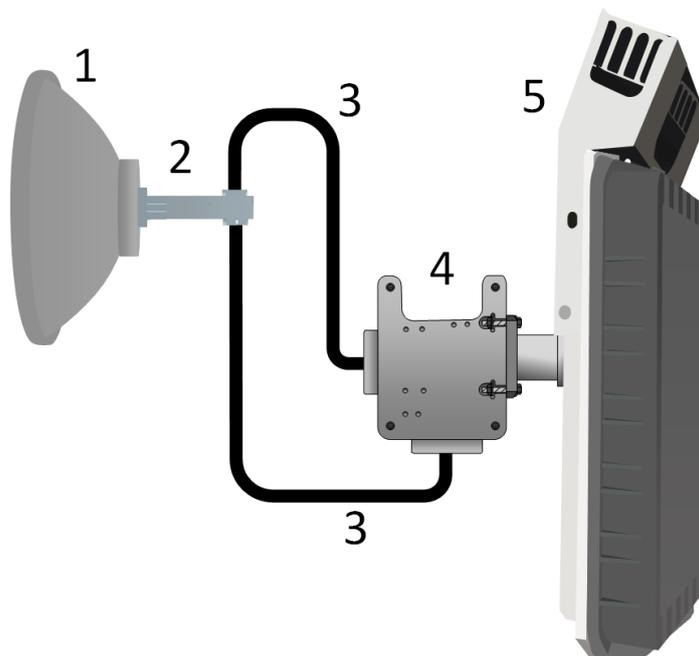

Figure 6-10 1+1 FD Integra-X/X2 connection diagram
If only one polarization is used, and the antenna supports both frequency channels, a single antenna can be used. For such 1+1 FD configuration with Integra-X/X2 FODU, an antenna (1), a coupler (2), waveguides (3), a tower mountable OMT (4), and a single FODU (5) are required. 1+1 FD connection diagram is shown in Figure 6-10.